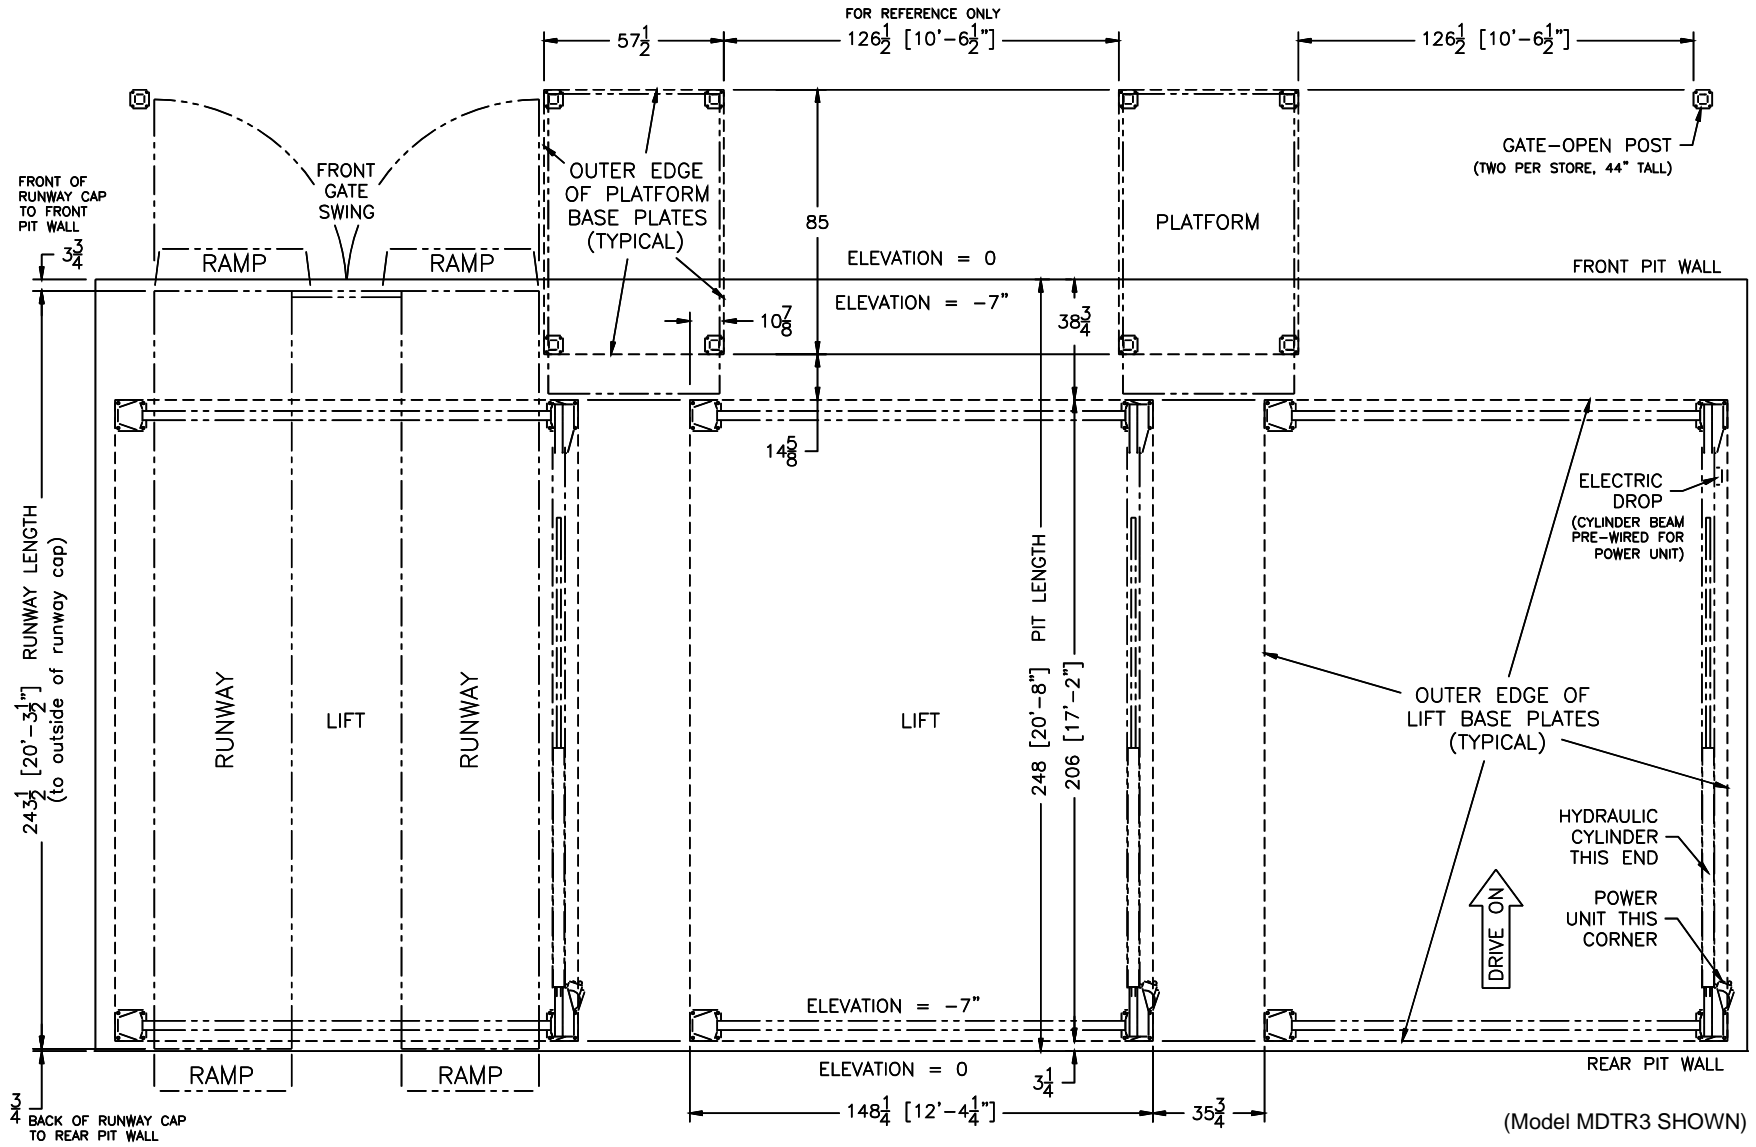

Fig 3B - Service Bay Layout (MDTR3 & 4 ONLY)
- MDTR3 & 4 installation see Fig 3B
- MDR3 & 4 installation see Fig 3B